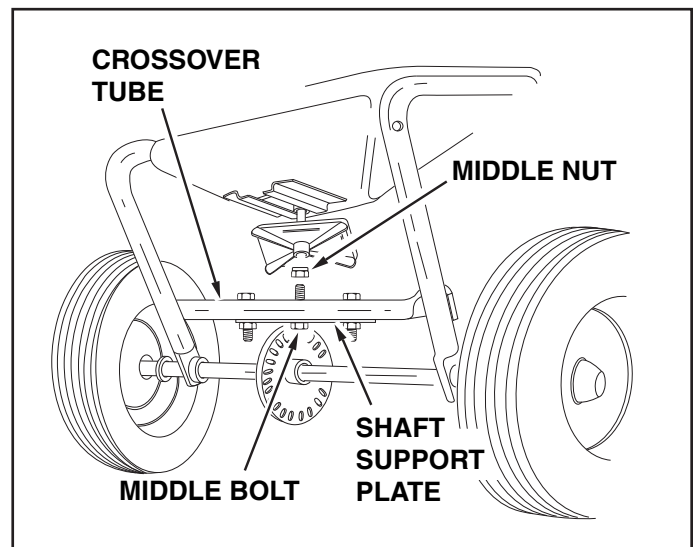

FIGURE 4
8. Remove the nut from the middle bolt in the crossover tube. See figure 4.
9. Place the long handle tube onto the crossover tube on the **side opposite** from the shaft support plate. Fasten with the bolt, washer and nut removed in the previous step. See figures 4 and 5. **Do not tighten at this time.**